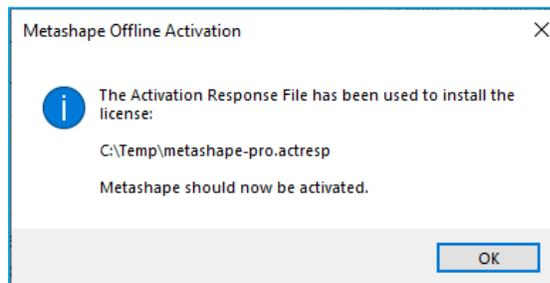

Figure 22 - Offline Agisoft Ortho Mapping Activation Success
18. You should see the Metashape Offline Activation message (Figure 22) indicating, "Metashape should now be activated". Select **OK**.